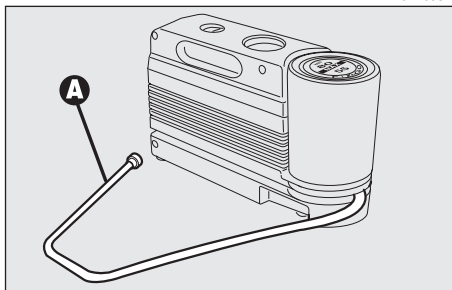
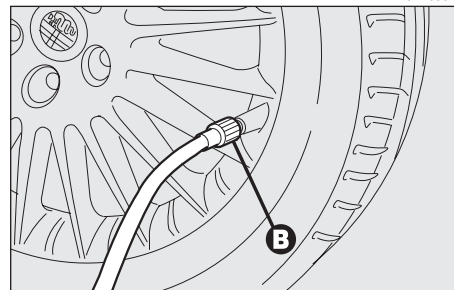

fig. 13
fig. 14
- unscrew the tyre valve plug, take off the filling pipe **A-fig. 13** and screw the ring nut **B-fig. 14** on the tyre valve;